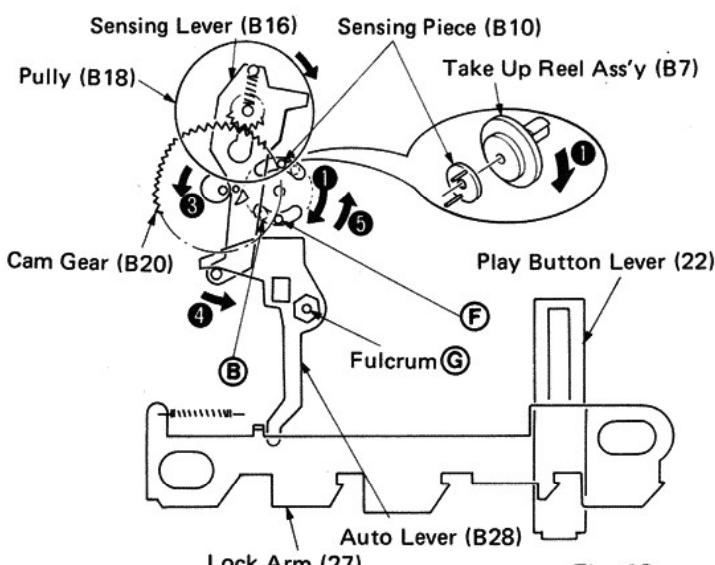

Fig. 16
- 2 As shown in Fig. 16, the take-up reel (B7) is revolving in direction ① in the PLAY mode and the sensing piece (B10) coupled through the felt clutch receives a force to revolve also in direction ①.
- 3 On the other hand, the cam gear (B20) is revolving in direction ③ since it is meshed with the gear of the pulley (B18).
- 4 When the sensing piece (B10) arrives at Point (B), it comes in contact with the sensing lever (B16) and slips against the take-up reel assembly (B7).
- 5 Since the cam gear (B20) pushes the sensing lever (B16) in direction ④ with the aid of the inside cam, the sensing piece is also pushed in direction ⑤.
- 6 When the sensing lever (B16) returns to Point (F), it assumes a free condition due to the internal construction of the cam gear (B20). On the contrary, the sensing piece (B10) pushes the sensing lever (B16) to rotate it as far as Point (B). This operation is repeated in the PLAY mode. (Fig. 16)